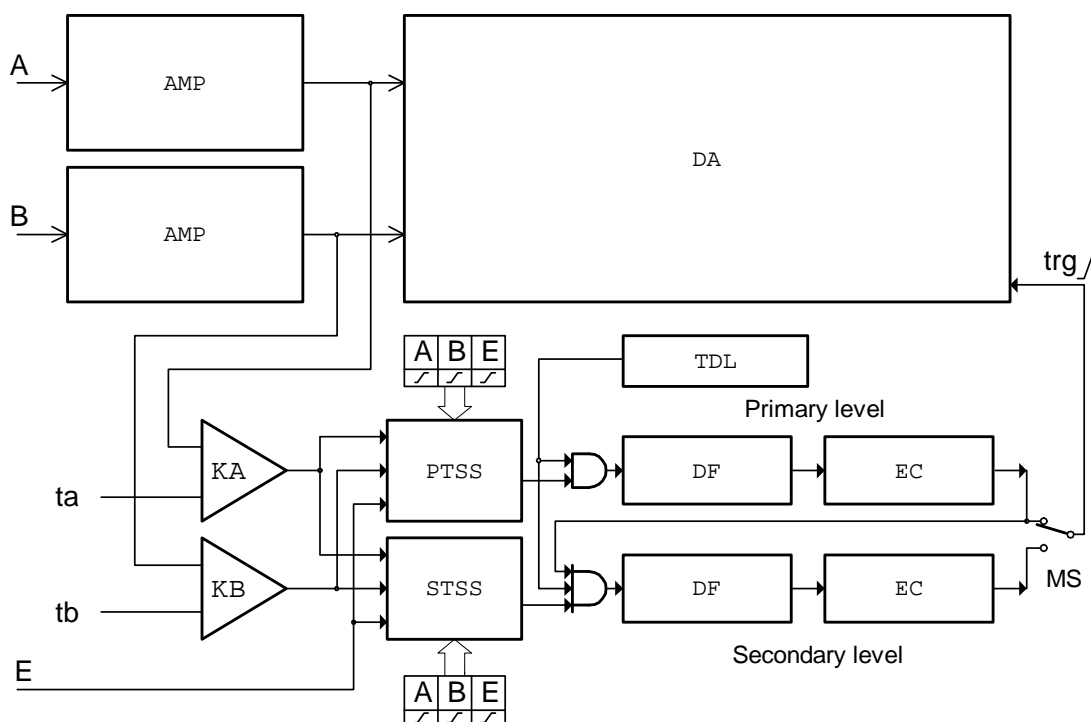

Fig. 2.1.2.1. – Block schematics of trigger circuits
The block schematics of the dual level trigger circuits are shown on the figure 2.1.2.1.
signal cannot start the measurement. In case that only one of the signals is selected, trigger event is generated corresponding to the polarity, which is symbolically presented by direction of change of the signal. (0 to 1 means no inversion). When there are several inputs selected, the selector makes a logical addition (OR) of all of the selected inputs. Before adding the signals together, ones are adjusted with respect to the polarity settings. Trigger event is generated only when the change of result of the logical addition occurred from 0 to 1 (FALSE to TRUE). Logical values of the signals in the input of logical adder (OR) from which the trigger event is generated are created on the basis of following rules: value 0 (FALSE) is the value that selector input signal should have before valid trigger event. 1 (TRUE) is the value that this signal will have after the valid trigger event. For example, if triggering from Channel A is set to the trailing edge, then the output voltage of the channel is higher than the threshold voltage, consequent value on the adder input will be 0 (FALSE). Inverse situation will be taken as 1 (TRUE). Note that when using logical addition, all values must be 0 (FALSE) in order for result to be 0 (FALSE). It is relatively easy to find out which are the valid trigger events. Figure 2.1.2.2 shows several valid and invalid trigger events (all inputs are enabled).